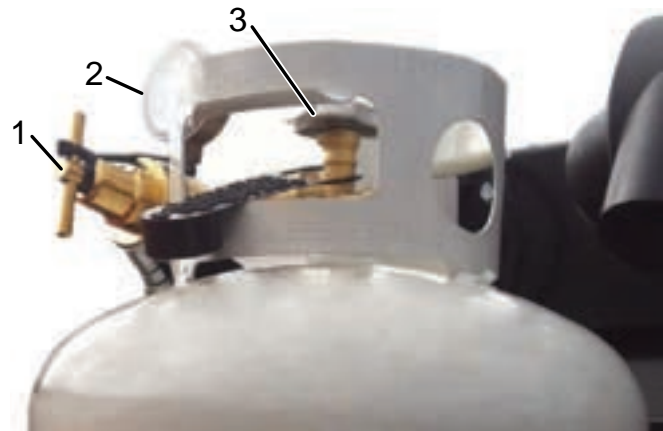

Figure 4-35. Propane Tank With Regulator
2. Turn the propane tank Open/Close valve counterclockwise to open the propane gas flow. (Figure 4-35)
1. Turn the propane tank valve clockwise to the CLOSE position to allow the propane system to burn off all the gas. (**Figure 4-35**)